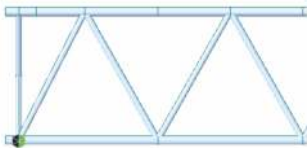
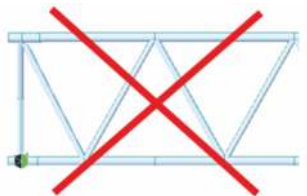

Figure 1: Orientation of the truss supported of bottom chords
Figure 3: Not allowed orientation of the truss supported of bottom chords
- Care must be taken regarding the correct orientation of the bracing arrangement and support condition of the truss. The figures 1 and 2 show the acceptable orientations and supporting conditions of the truss and figures 3 and 4 show the orientation and support condition that should not be used.